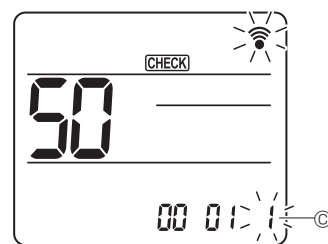

Fig. 6-19
- ④ Selecting the setting number
- Use the [DOWN] button to change the Setting number ③. (Fig. 6-19)
- ⑤ To select multiple functions continuously
- Repeat select ③ and ④ to change multiple function settings continuously.
- ⑥ Complete function selection